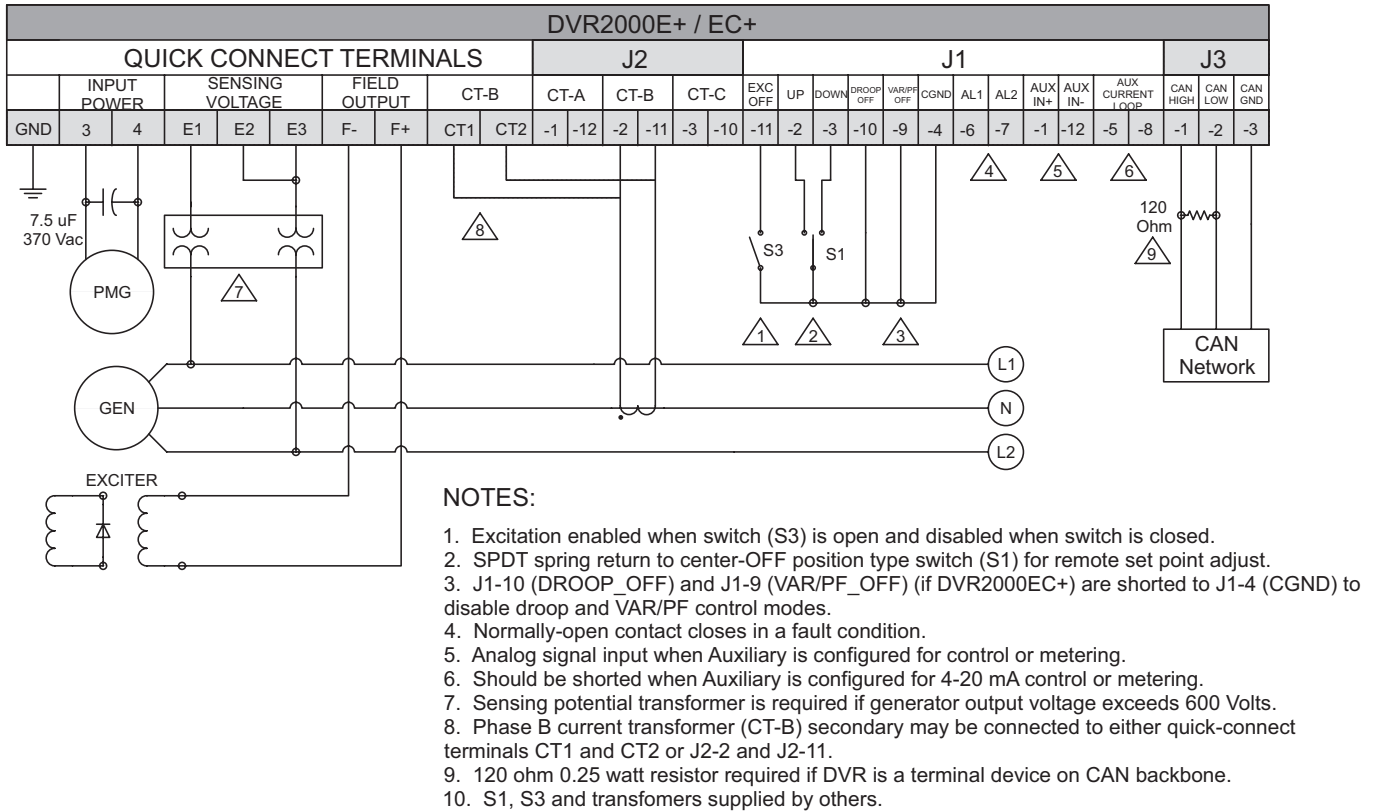

Figure 5-11. Typical Connections to a Single-Phase Generator
- Figure 5-11 illustrates an application with a single-phase generator.